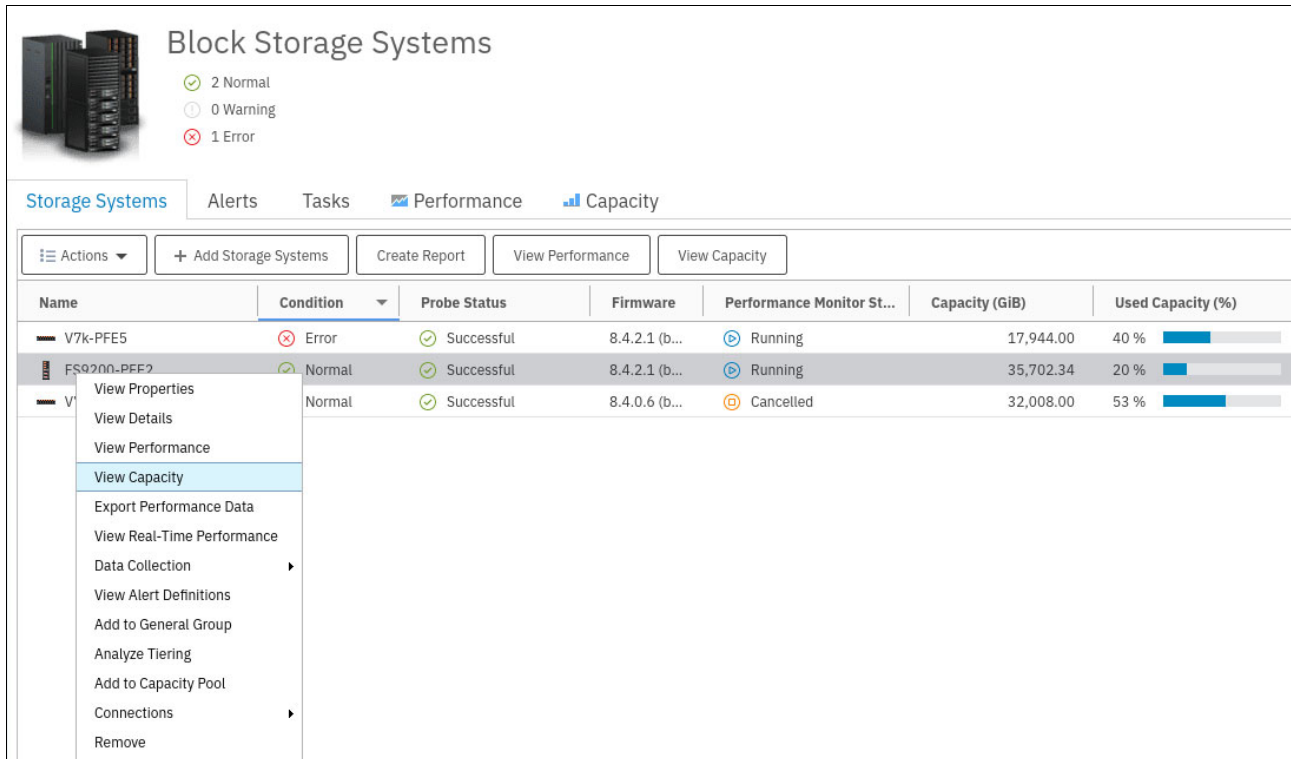
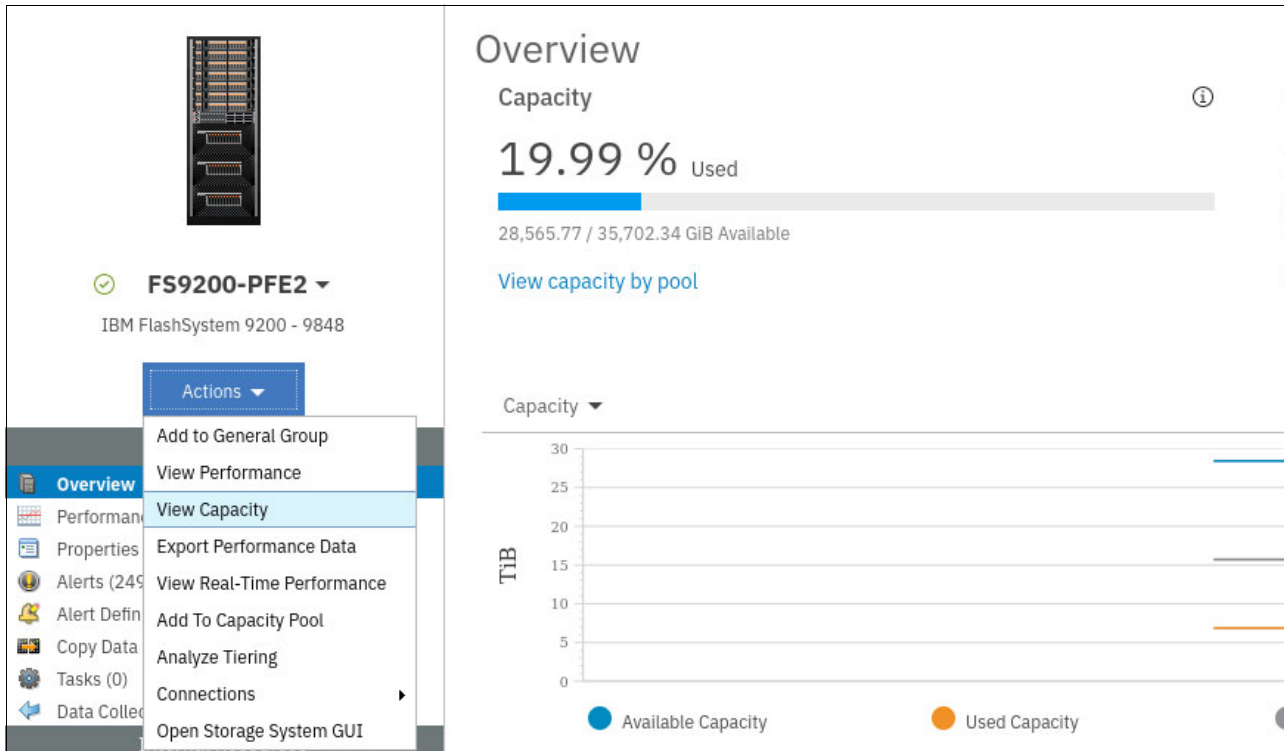

Figure 9-50 Block Storage Systems overview
Figure 9-51 Capacity overview of Storage System
1. To open the Capacity View in IBM Spectrum Control, click **Storage**, and then click **Block Storage Systems**. Right-click one or more storage systems and click **View Capacity** (see Figure 9-50).
2. You can also click **View Capacity** on the **Actions** menu (see Figure 9-51 on page 599) of each device.
- To open the Capacity view in IBM Storage Insights, use the **Resources** menu. The rest of the sequence is similar to IBM Spectrum Control with some minor cosmetic differences (see Figure 9-50 on page 598 and Figure 9-51).